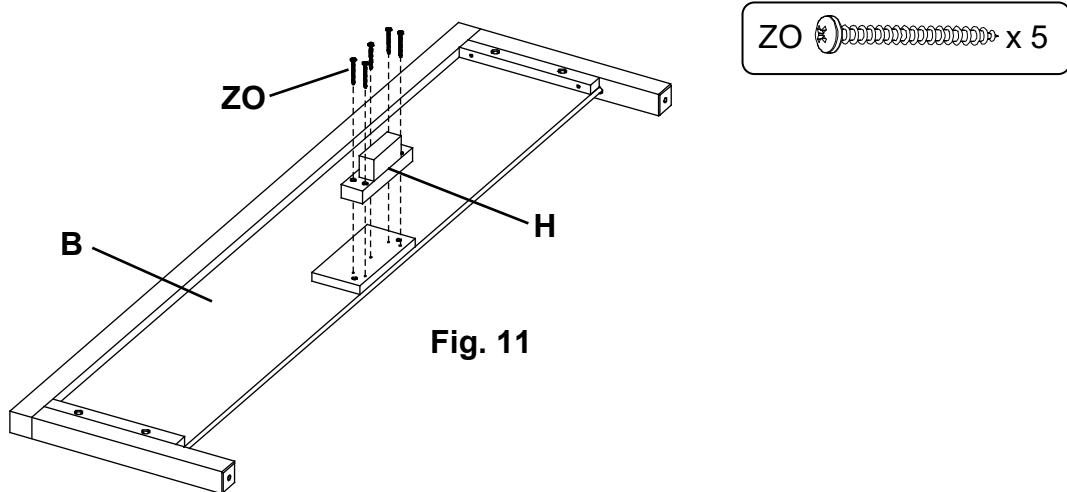

Fig. 11
Position the Footboard Support (H) over the block that is mounted onto back side of the Footboard (B) and attach with five #10 x 2" Pan Head Screws (ZO) through the predrilled holes in the slat supports and into the location punches on the block. See Figure 11.